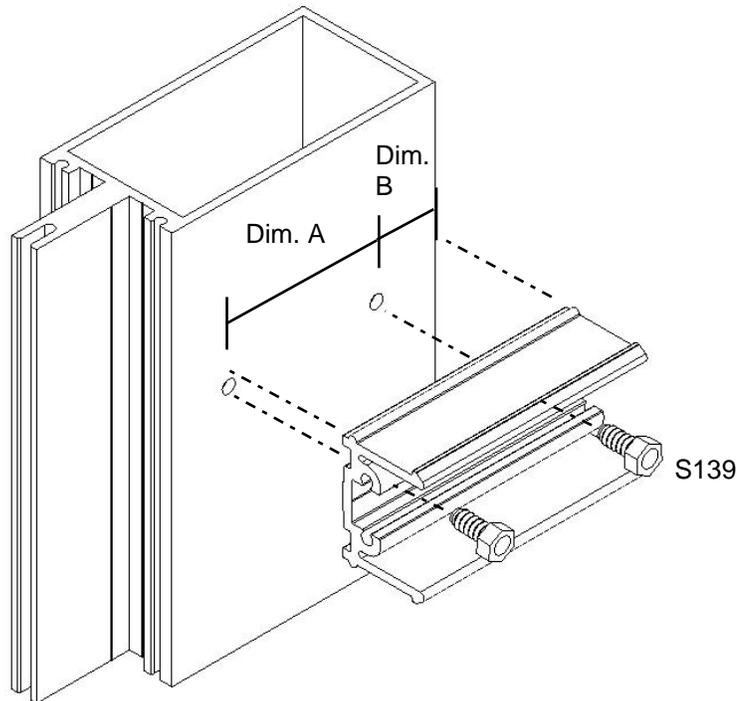

Figure 7: Attach shear block to the vertical back member.
- Drill .201" diameter holes into the side of the vertical back member as shown in Figure 7.